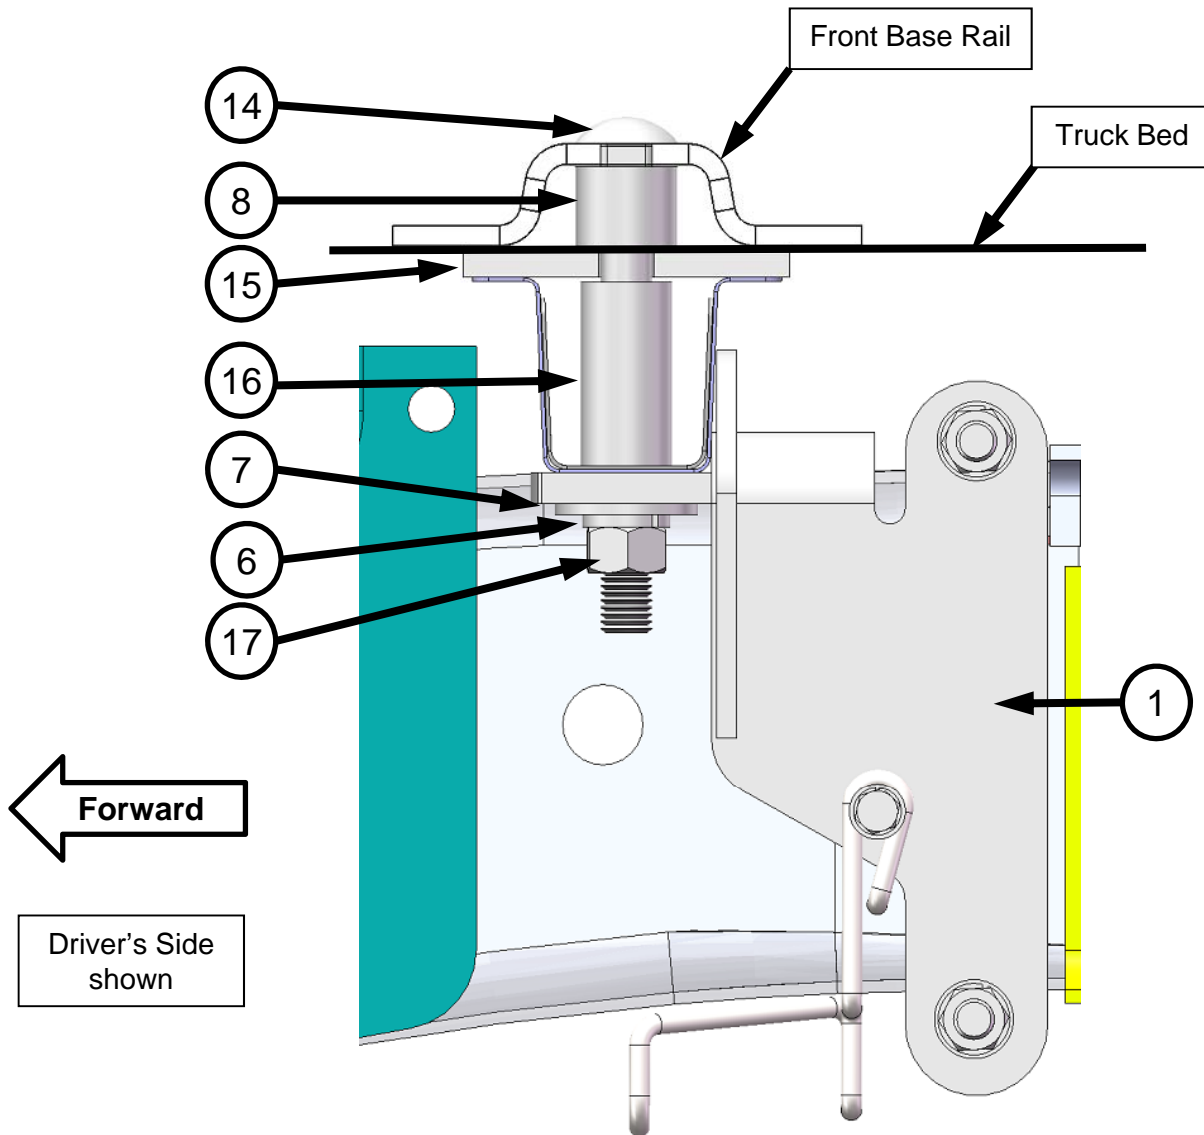

Figure 14
25. Place the two bed rails and 5th wheel assembly from steps 13-16 over the holes drilled in step 16. Secure the front base rail to the front driver's side bracket (item 1) using the 5/8" hardware (items 14,7,6 &17). Install the base rail spacer (item# 8) as shown. Install the 1/4" spacer (item #15) as shown between the truck bed and the front driver side bracket. See Figure 14.